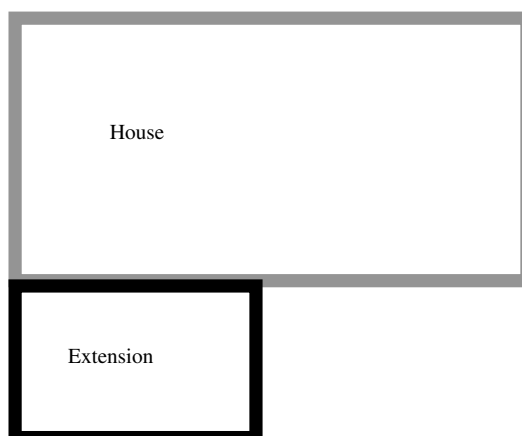

Figure 1.1 Positioning of extension – in alignment with house.
- **Connecting the extension to the house:** To most people, the logical way of connecting the extension is as shown in Figure 1.1. Here the extension side wall lines up with the